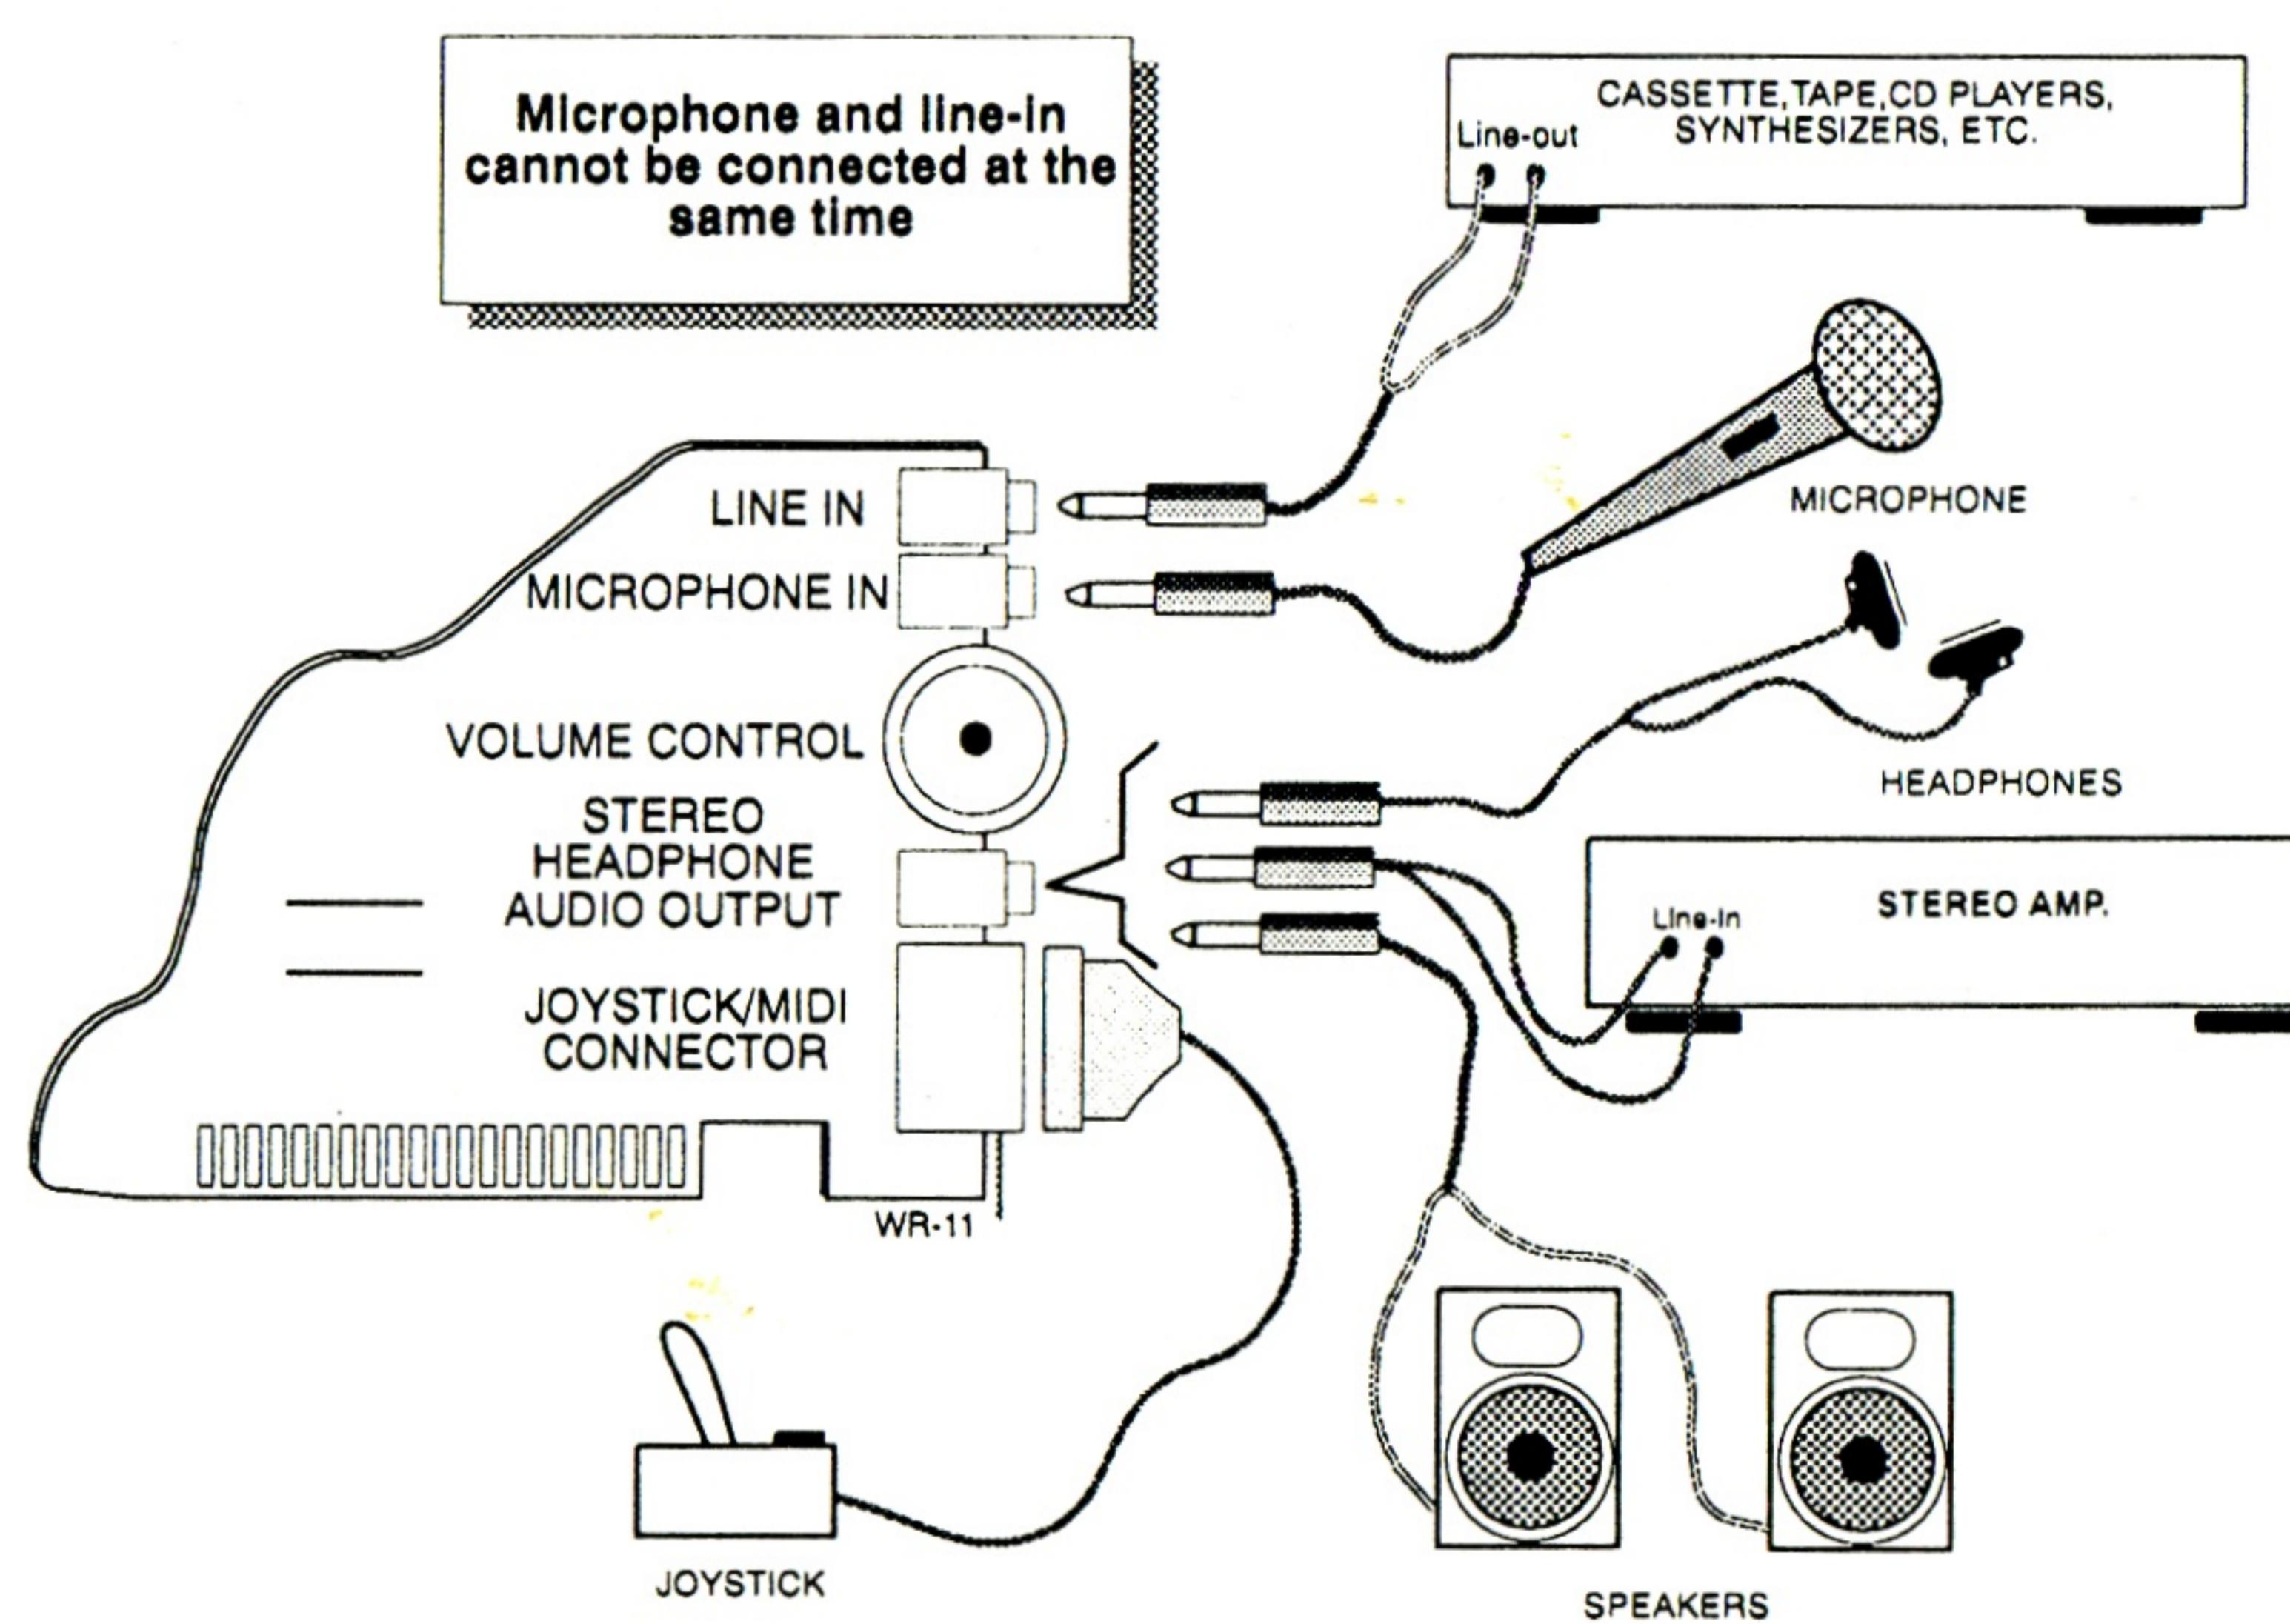

Figure 5: Connecting Other Devices To The Card
6. Connect speakers or headphones to the card (see Figure 5).
To connect devices like the microphone to the card, see Figure 5 for the connection of the various devices. (Since these devices do not come in standard packaging, your package may not contain them.) However, there are a few simple rules you need to follow:
Solution: Check that the speaker is connected to the speaker output connector and the volume is at mid range. (Refer to Figure 5 for the correct connection.) If the speaker is battery-powered, make sure that the power is turned on.